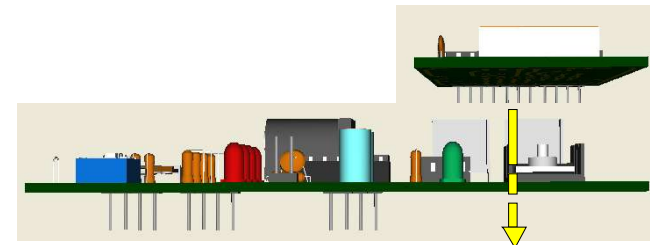

Fig 1.2 – Attaching to BBCII
5. Soldering the PLD Companion to the Breadboard Companion™ power supply kit (BBCII or BBCJr): Find the 11 open holes on your Breadboard Companion power supply kit. They will be aligned with the other header pins. Place the PLD Companion through those holes so that the header pins on the PLD companion goes through the top of the power supply kit (Fig 1.2). Solder the header pins to the bottom of the power supply kit.